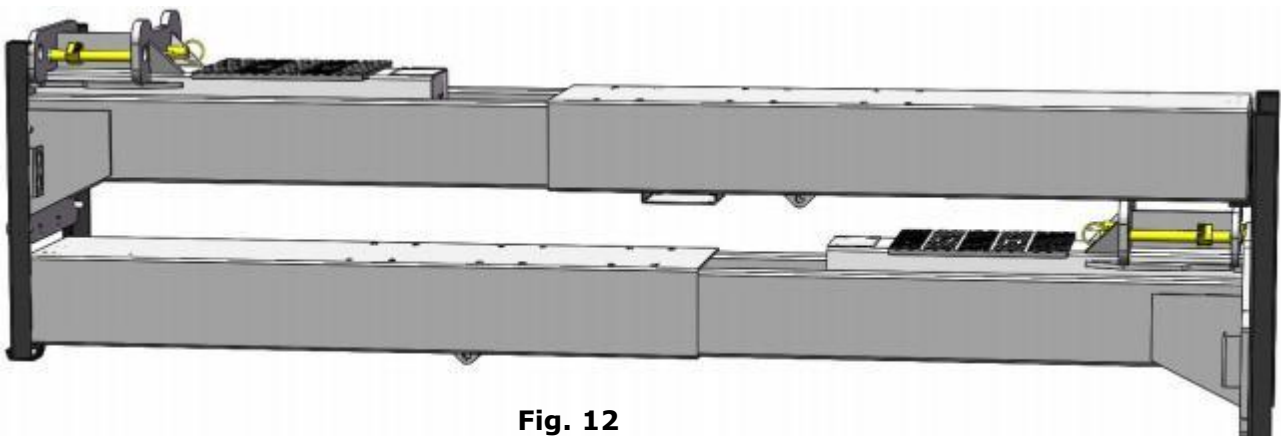

Fig. 12
3. Take out 2pcs top beam, then move them to the installation position. (See Fig. 12).